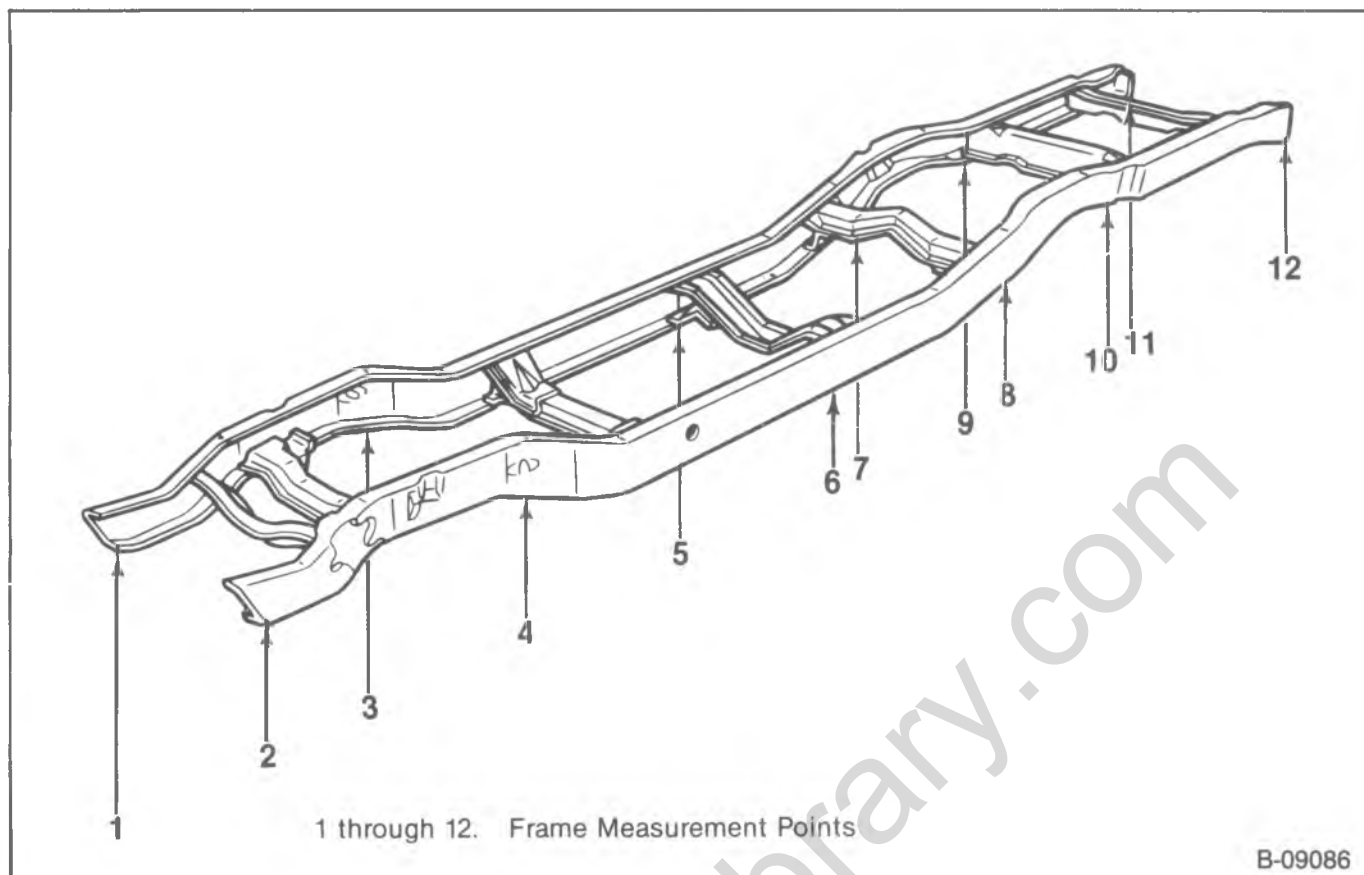
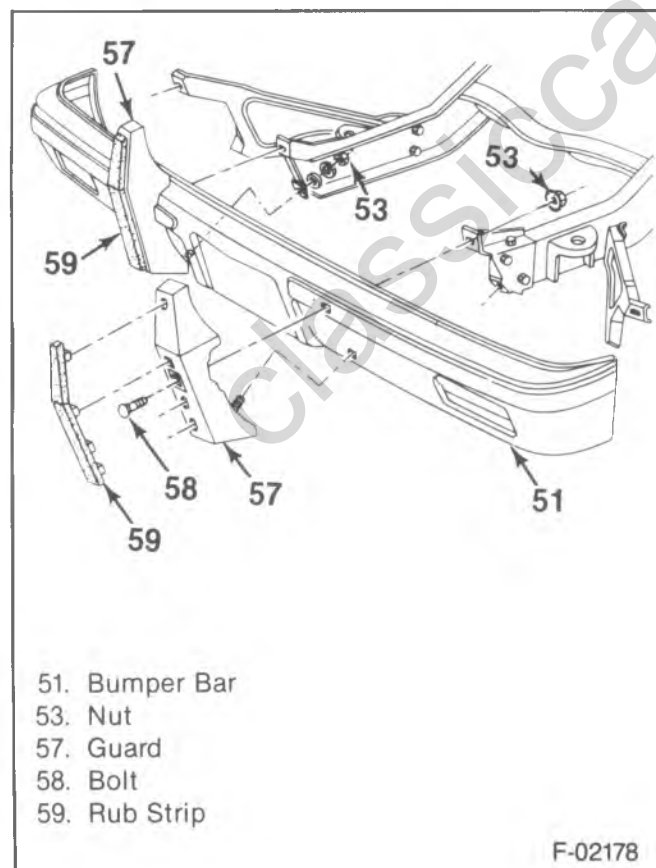

Figure 1—R/V and P Model Frames
Figure 5—R/V Front Bumper Guards
DETERMINING THE FRAME CENTERLINE (Figure 1)
- a. Using a plumb bob, transfer points 1, 2, 11, 12 from the inside of the web to the floor. Mark the points (figure 1).
1. Brace to bumper nuts (52) (figure 1).
2. Bracket to bumper nuts (53).
4. Guard assemblies (where used) (figure 5).